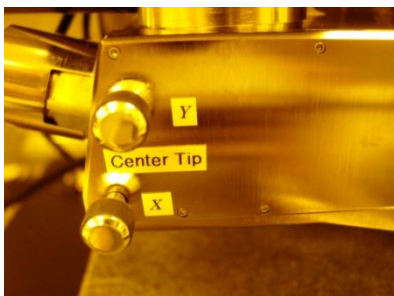

Figure 19. Alignment knobs on optics housing to center the tip image in the video camera's screen
Step 4. Center the point of the tip near but not on the center of the cross in the video screen using the two knobs on the video camera housing to the far left of the AFM head (see Figure 19 above).